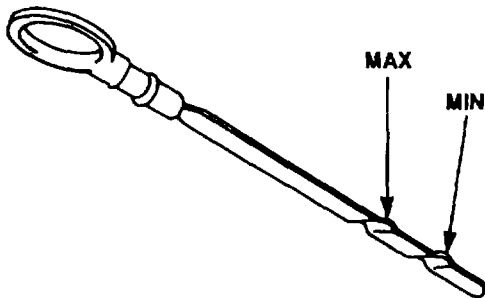

Figure 3-15. Oil Dipstick
- b. Oil level must rest between tile indentation marks (figure 3-15).